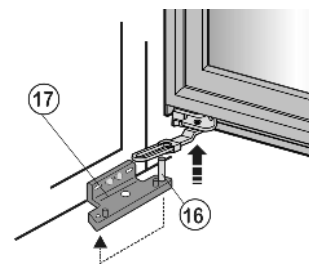

Fig. 10
- ▶ At the bottom, lift the door off the pin Fig. 10 (16) of the lower turn hinge Fig. 10 (17) and set it aside.
- ▶ Transfer the bearing pin Fig. 10 (16) in the turn hinge and screw it firmly into place (with 4 Nm).